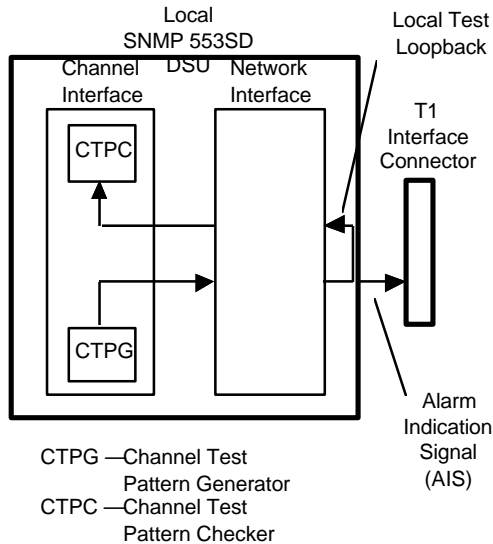

Figure 5-2 Unit Internal Self Test
Unit Internal Self Test, illustrated in *Figure 5-2*, activates the Channel Test Pattern Generator (CTPG) and Channel Test Pattern Checker (CTPC) of the local DSU with a Local Test (LT) loopback. It tests the DSU internal circuits isolated from both the T1 link and the DTE. The DSU transmits an Alarm Indication Signal (AIS) to the T1 link during the test.